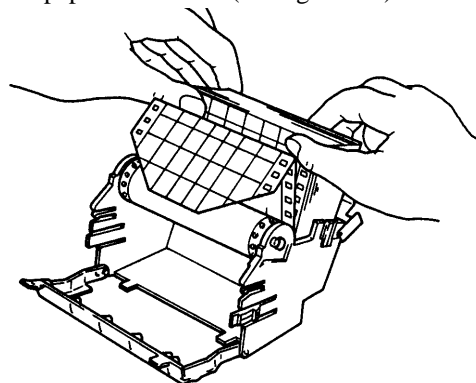

Figure 5.4
- 7 Load the chart paper into the top hopper making sure that the sprocket teeth of the chart drive are properly engaged in the chart paper perforation holes. Take care not to insert the paper backwards (see figure 5.4).